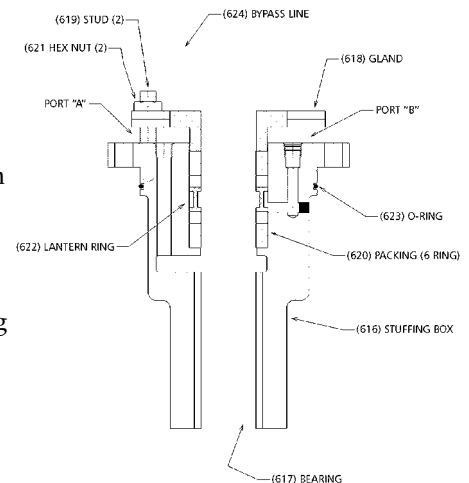
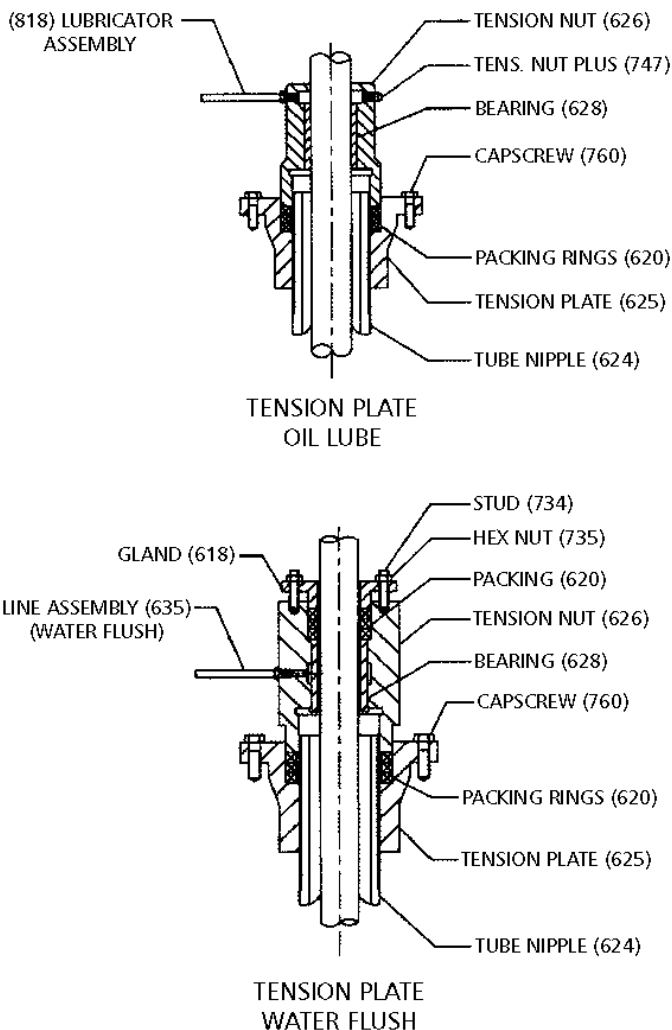

Figure 9
Figure 10
1. If the stuffing box (See Fig. 9) or tension nut (See Fig. 10) is assembled to the head, remove it and all the attached piping.
2. For threaded column, check to be sure that the flange column (637) is securely attached to the bottom of the discharge head. Check and tighten the capscrews (or socket head screw) gradually in diametrically opposite pairs.
Assemble stuffing box as shown in Figure 9.
1. Clean the surface of the discharge head where the stuffing box will be mounted and remove any nicks or burrs with a fine flat file. Position gasket on surface. Slide stuffing box (616) down over headshaft and into position on the gasket. Secure stuffing box with capscrews. Make sure the capscrews are torqued equally to prevent misalignment.
2. Grease the packing ring (620) for easier installation.
3. Twist the packing ring sideways to get it around the shaft easily. Start the first ring into the stuffing box. When the entire ring is worked in using the fingers, tamp it down using a split wood bushing (or equal) and push the packing ring down firmly. It must seal on the shaft and bore of the stuffing box. Install all six (6) rings and lantern ring as shown in the Figure 9. Stagger ring joints 90 degrees apart. The split gland may be used as a tamper for the top ring.
1. (See Figure 10). Lubricate tube threads and underside of tension plate flange with thread compound. Thread the tension plate (625) onto the enclosing tube nipple (629) manually until its shoulder rests on the discharge head.
1. (See Figure 10). Install capscrews (760) in the tension plate. Pour one pint of oil down the oil tube. **Note: Factory assembled unit has no oil in it. Oil must added in the field.**
2. Install packing (620) in the tension plate and thread the tension nut (626), tightening it firmly against the packing.
3. If a packed type tension nut (626) is used (for water flush), install packing (620), packing gland (618) and secure with stud (739) and nut (735). Screw nut finger tight. Install line assembly (635) and connect to flush liquid supply (see Figure 10).